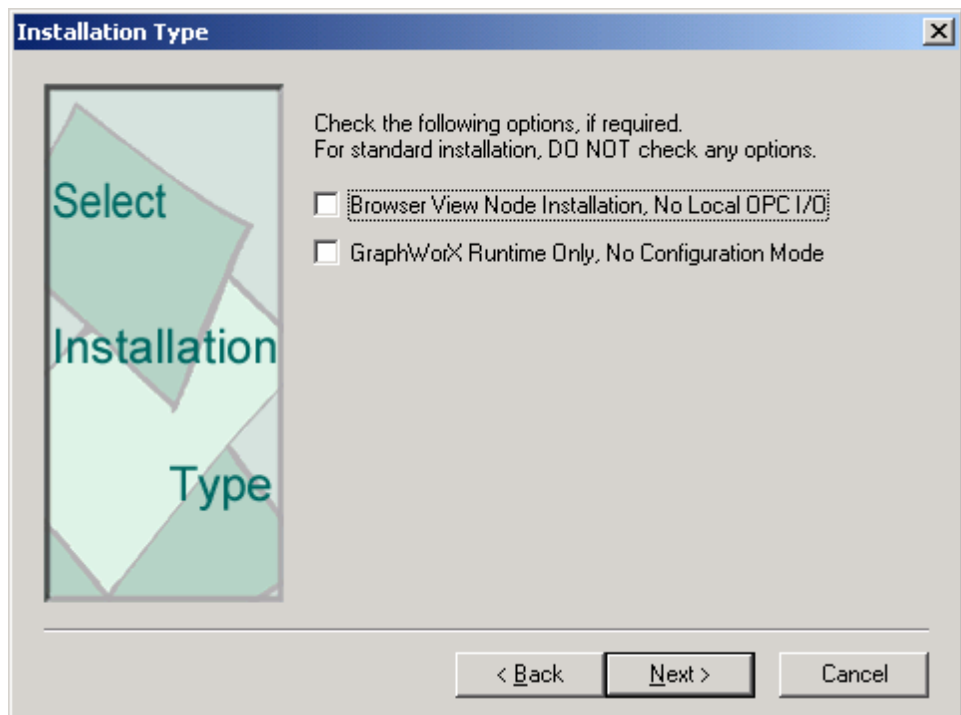

Figure 2.7. Selecting ProcessView Components
11. The **Select Components** dialog box appears, as shown in **Figure 2.7**. Here there are two additional options available for a ProcessView installation: